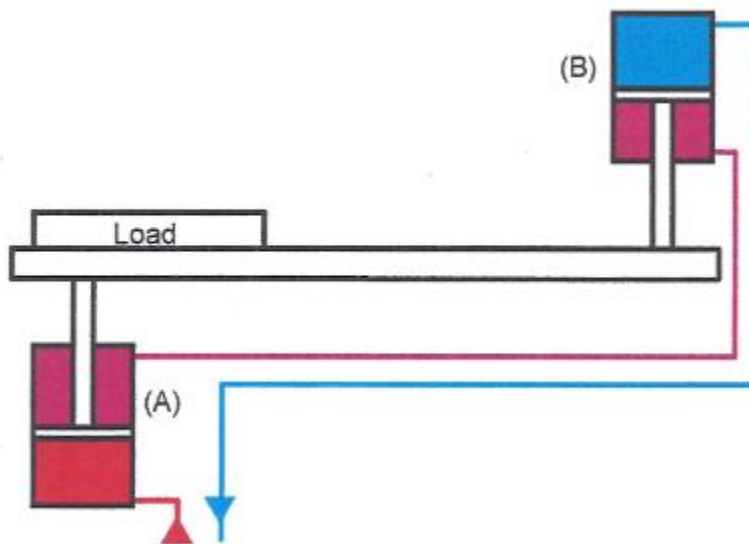
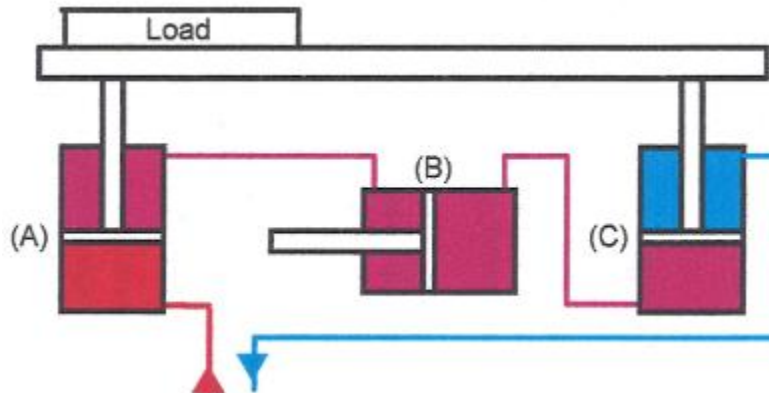

Figure 22-11. Alternative cylinder positions for a series-flow synchronizing circuit using single-rod end cylinders.
Figure 22-12. Alternative cylinder positions for a series-flow synchronizing circuit using single-rod end cylinders.
To save cost, reduce potential leakage at the extra rod seals, and eliminate space needed for the second rod, use the circuit in Figure 22-11. The cylinders in this circuit oppose one another, so one extends while the other retracts. This is one way to synchronize single-rod cylinders in a series circuit. Connecting identical rod end volumes together allows series synchronization the same as double-rod end cylinders. Space for the top cylinder could be a problem on some machines so the circuit in Figure 22-12, although more expensive, works equally well. (Use the same tandem-center valve makeup circuit as seen in Chapter 21, figures 7-10 to level the cylinders after each stroke.)
Mounting is more conventional using three single-rod cylinders piped as in Figure 22-12. The only purpose of cylinder (B) is to connect equal areas. This design is still less expensive than two double-rod cylinders and it has one less leak source. This circuit requires make up valves that allow cylinder (C) to retract, cylinder (A) to retract without cavitation, and cylinder (B) to stroke if the other two do not reach home position simultaneously.